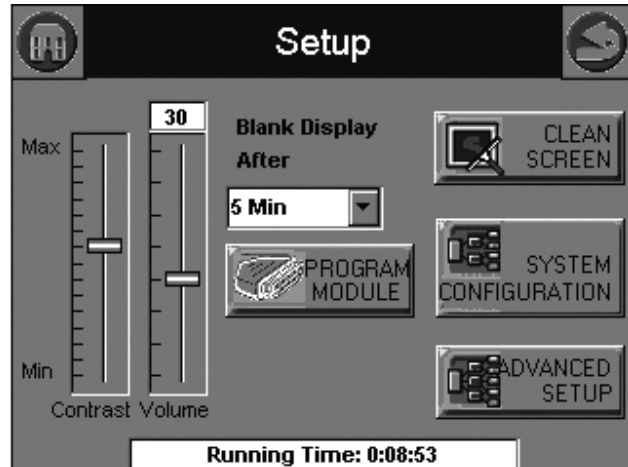

Fig. 2. S7999B/C Setup page.
5. Press the Setup button or the operator interface setup button. The screen shown in Fig. 2 will appear.
6. Press the Program Module button on the Setup screen, as shown in Fig. 2.